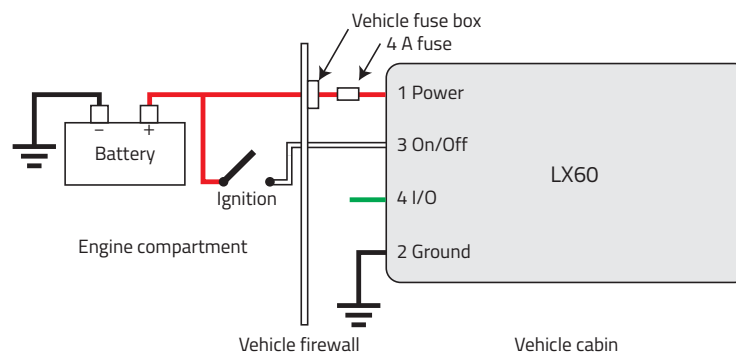

Figure 2-8: Vehicle Installation Option 1
6. Use a 4 A, fast blow fuse, recommended to have no more than  $\pm 10\%$  de-rating over the operating temperature range, to connect the red (power) wire on the DC power cable to the vehicle's fuse box. (See Figure 2-8.)